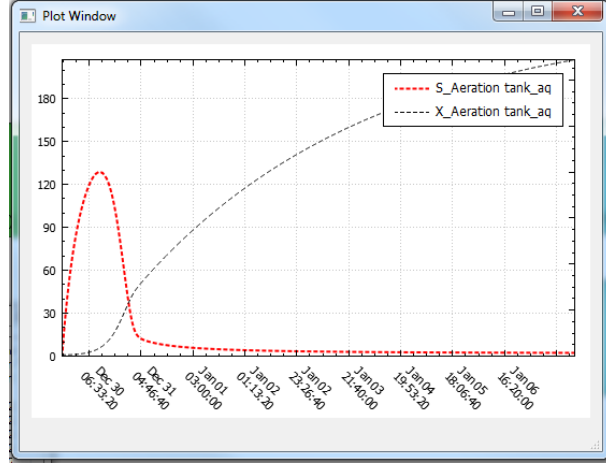

Figure 4.14: S and X variation in the simple ASM model
14. **Inspecting the results:** Right-click on the **aeration tank** and click **Water quality results**→**S** to see the variation of substrate in the aeration tank. Do the same thing for **X**. Similar to the previous example you can copy the two graphs unto each other (Figure 4.14).